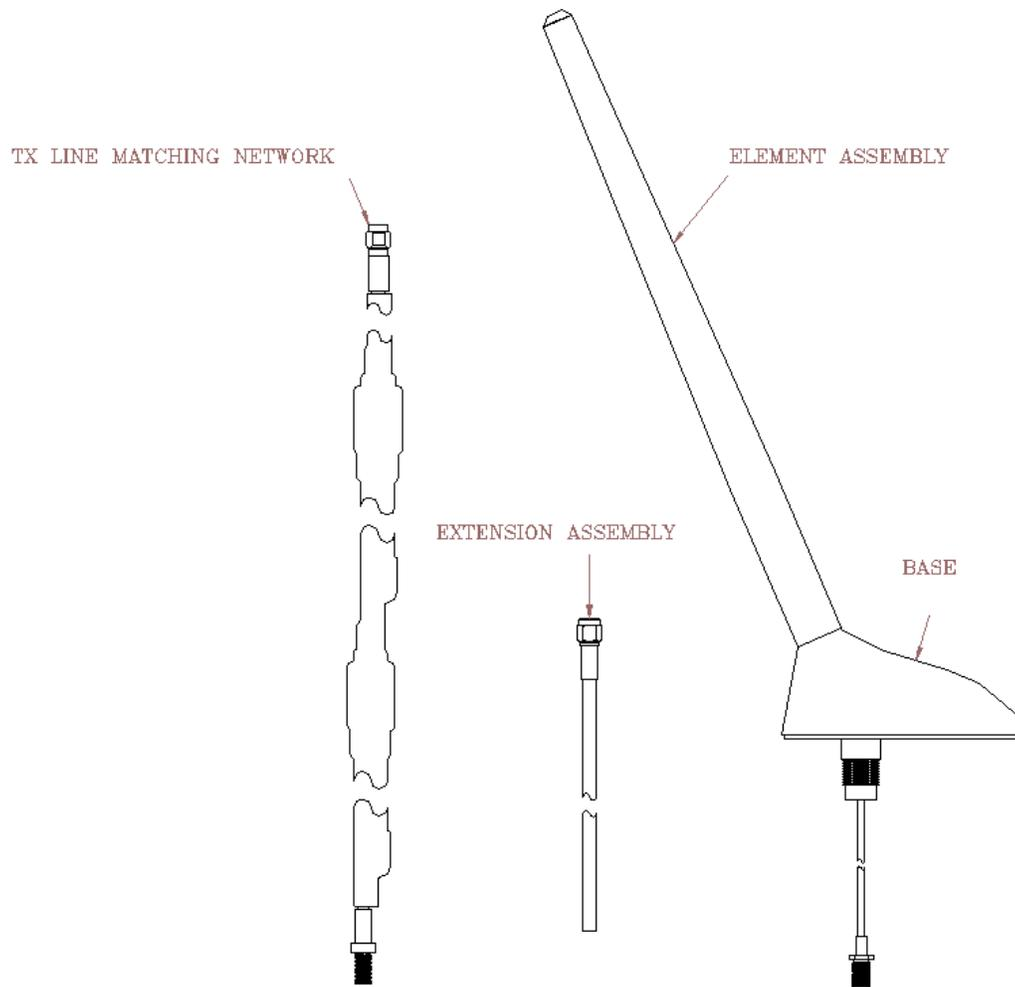

Figure 1: Antenna System Parts
- A. System Parts:** The system package includes (1) antenna base with pigtail, (1) element assembly, (1) matched coupler, (1) VHF transmission line matching network, (1) 7-800 transmission line matching network, (2) 17 foot cable extension, and RF connectors (if applicable). Use only components supplied with the antenna system (Refer to Figure 1.).